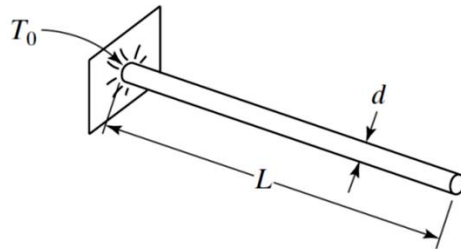

FIGURE P10.4
- 10.4.** Consider a pin fin (Fig. P10.4) having a diameter of 0.3 in. and length of 6 in. At the root, the temperature is 147°F. The ambient temperature is 80°F and $h = 5 \text{ BTU}/(\text{h} \cdot \text{ft}^2 \cdot ^\circ\text{F})$. Take $k = 25.5 \text{ BTU}/(\text{h} \cdot \text{ft} \cdot ^\circ\text{F})$. Assume that the tip of the fin is insulated. Using a two-element model, determine the temperature distribution and heat loss in the fin (by hand calculations).